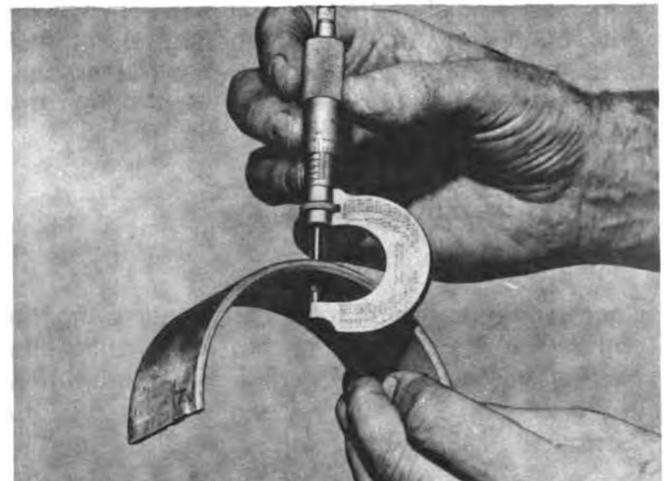

Fig. 1-53 (N10127). Measure The Bearing Shell.
1. Measure the shells with a micrometer that has a ball point, Fig. 1-53. Discard the shells that are worn more than 0.001 inch [0.025 mm], or have scratches or other damage. See Table 6 for the thickness of the standard shell.